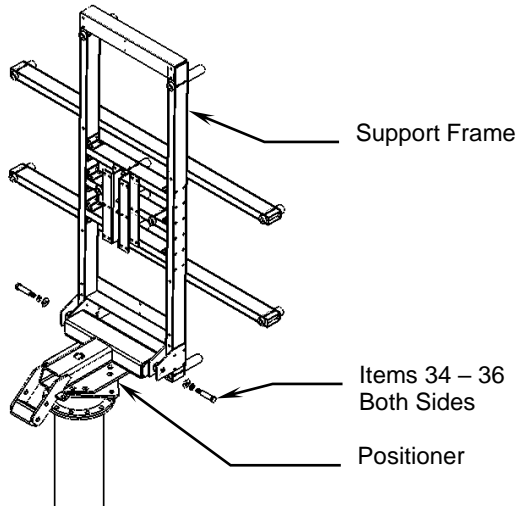

Figure 12: Support Frame Positioner Assembly
9. As shown in Figure 12, Support Frame Positioner Assembly, lift the assembled support frame to the Az/El positioner and secure with 1" hardware (items 34, 35, 36). Lay the frame back to rest on positioner.